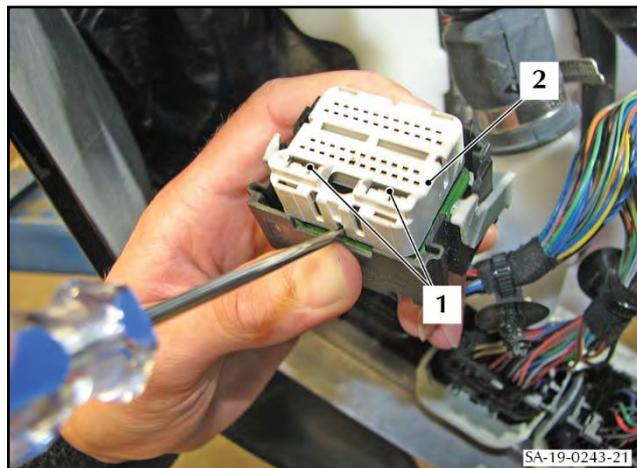

Figure 57
72. Use an applicable tool to remove the anti backout retainer from connector number Y51AT (13MY onward vehicles) or C0634 (all other models) (refer to Figure 57).